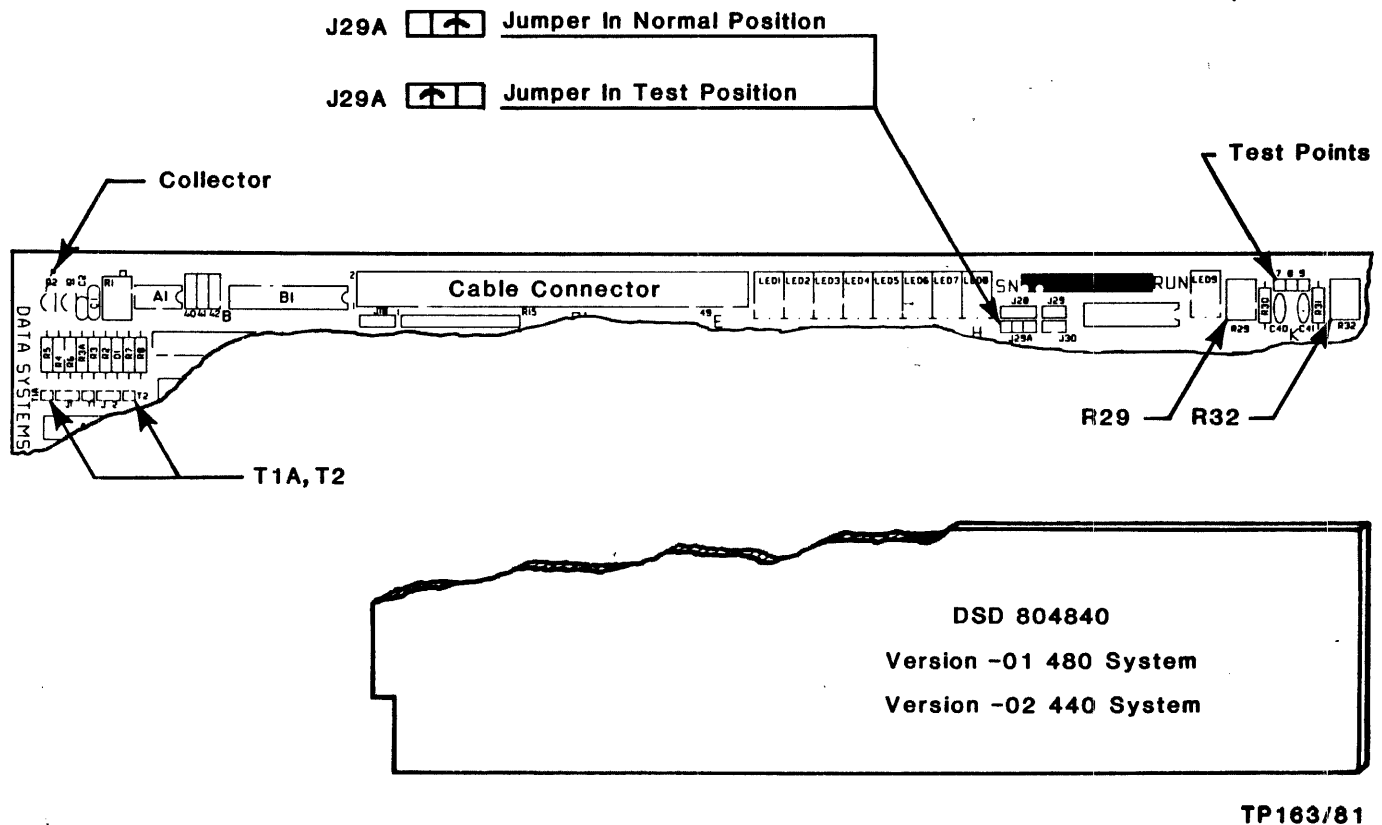

Figure 4-2. Controller Board Test Points and Jumpers
Figure 4-2 shows the location of referenced test points and jumpers for this adjustment procedure.
- (b) Refer to Figure 4-2 and move the Berg jumper on J29A from normal position to test position
- (c) With oscilloscope, observe pulse at test point 8, located just to the right of R29. (See Figure 4-2.)
The factory setting for this circuit is: the circuit will disable controller operation at a level of +4.75 volts, and restore controller operation when the voltage rises above +4.85 volts. Figure 4-2 shows the location of Q2, T1A, and R in the upper left hand corner of the module. Note that T1A and the collector of Q2 are at the same dc potential.